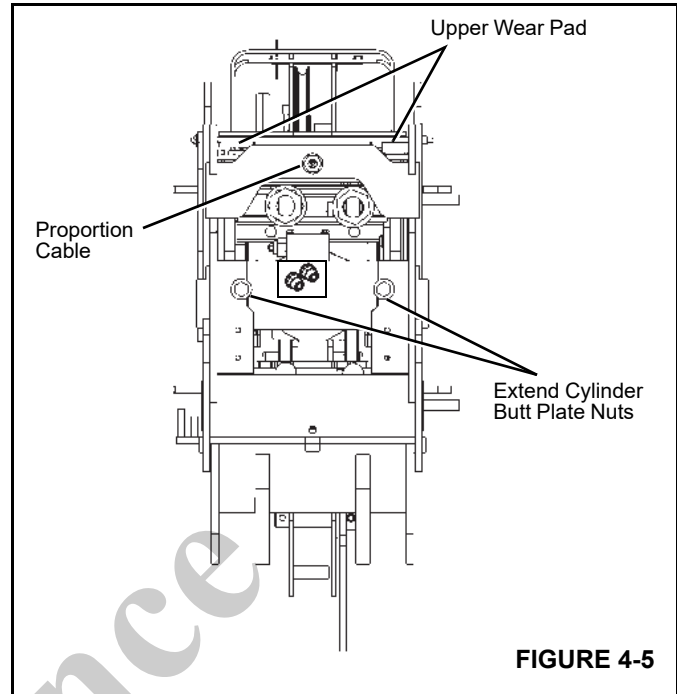

FIGURE 4-5
1. Remove the left and right upper wear pads in the rear between the 1st and 2nd boom sections (Figure 4-5).